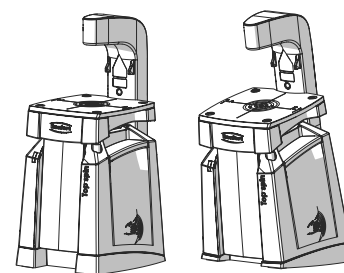

Fig. 2
- ⇒ Decide which working position you require, Fig. 2 (see section 5.4).